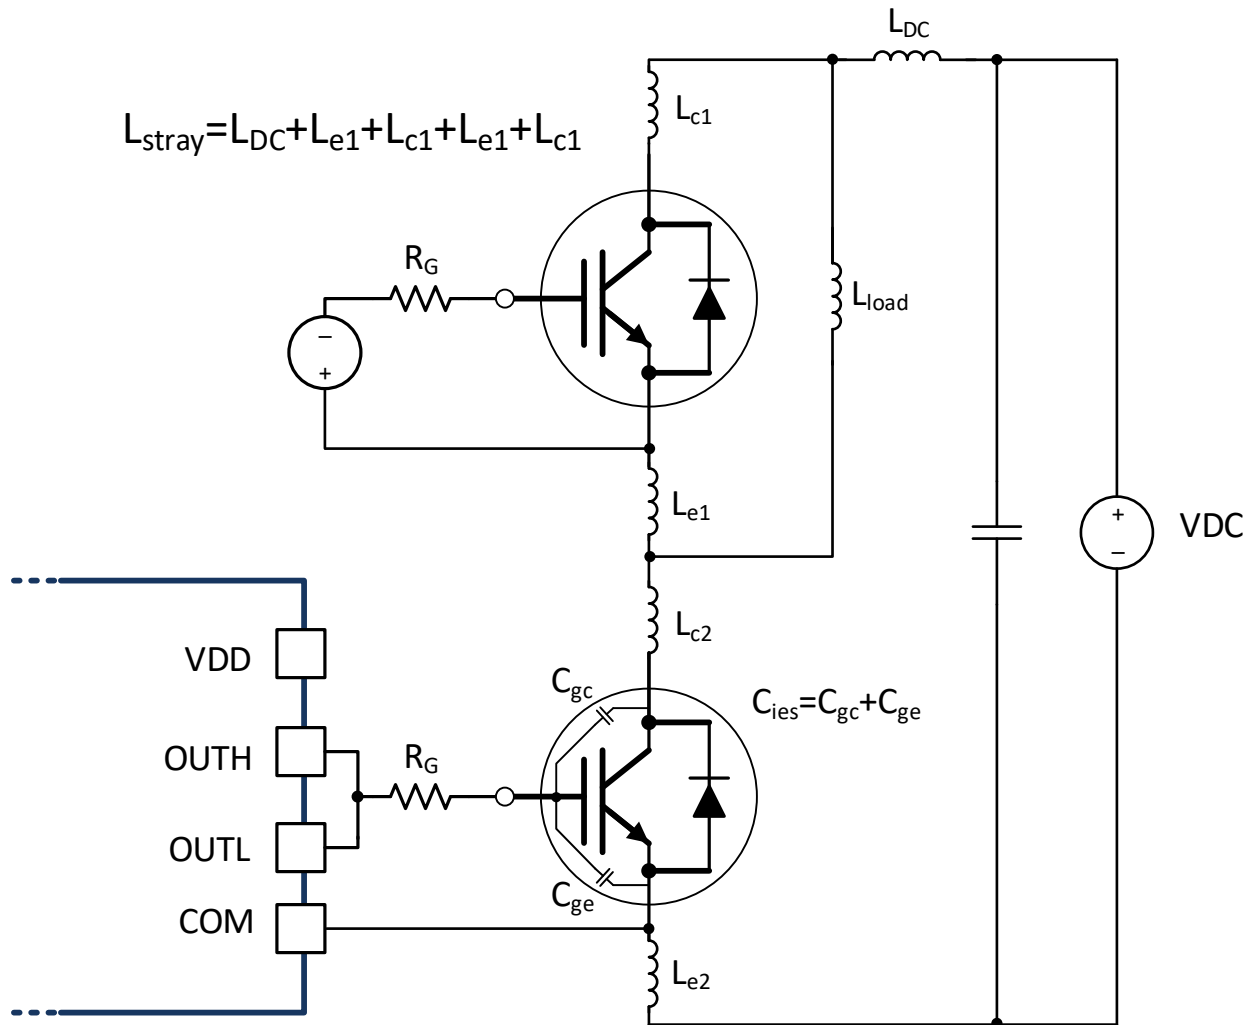

Figure 49. Stray Parasitic Inductance of IGBTs in a Half-Bridge Configuration
- $L_{\text{stray}}$  is the stray inductance in power switching loop, as shown in Figure 49